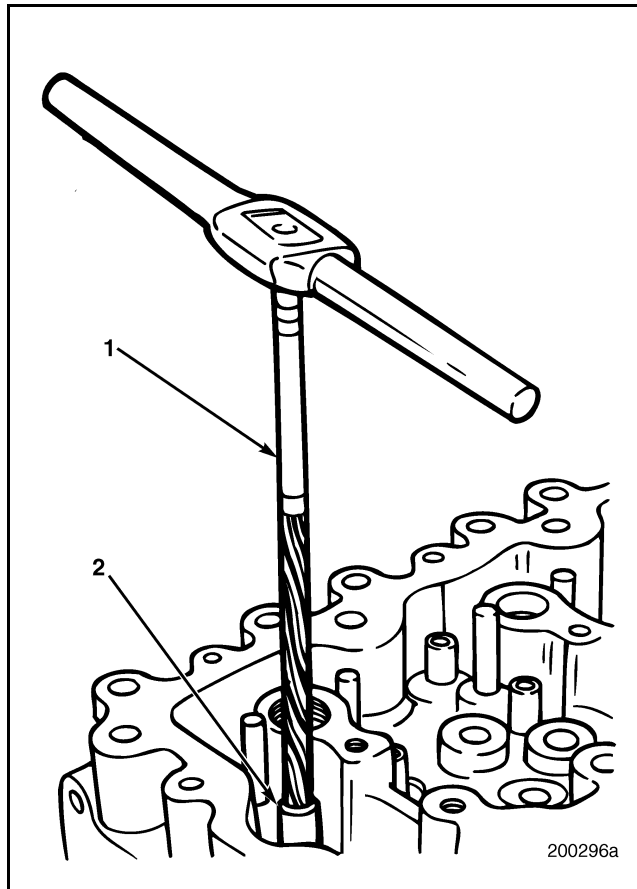

Figure 190 — Reaming Valve Guide
5. Using valve guide reamer J 37481 (1), ream the valve guide (2) to dimension as shown in Figure 190.